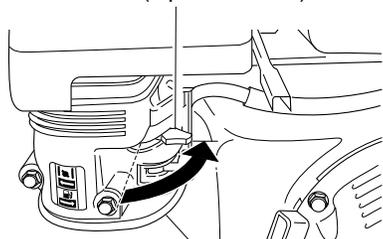

Figure 25 - Choke Lever Opened (Model RGH7500AIE Shown)
5. As engine warms up, slowly move choke lever fully to the right (see Figure 25, page 13). This opens the choke. On Model RGH11000AIE, the choke will automatically open.